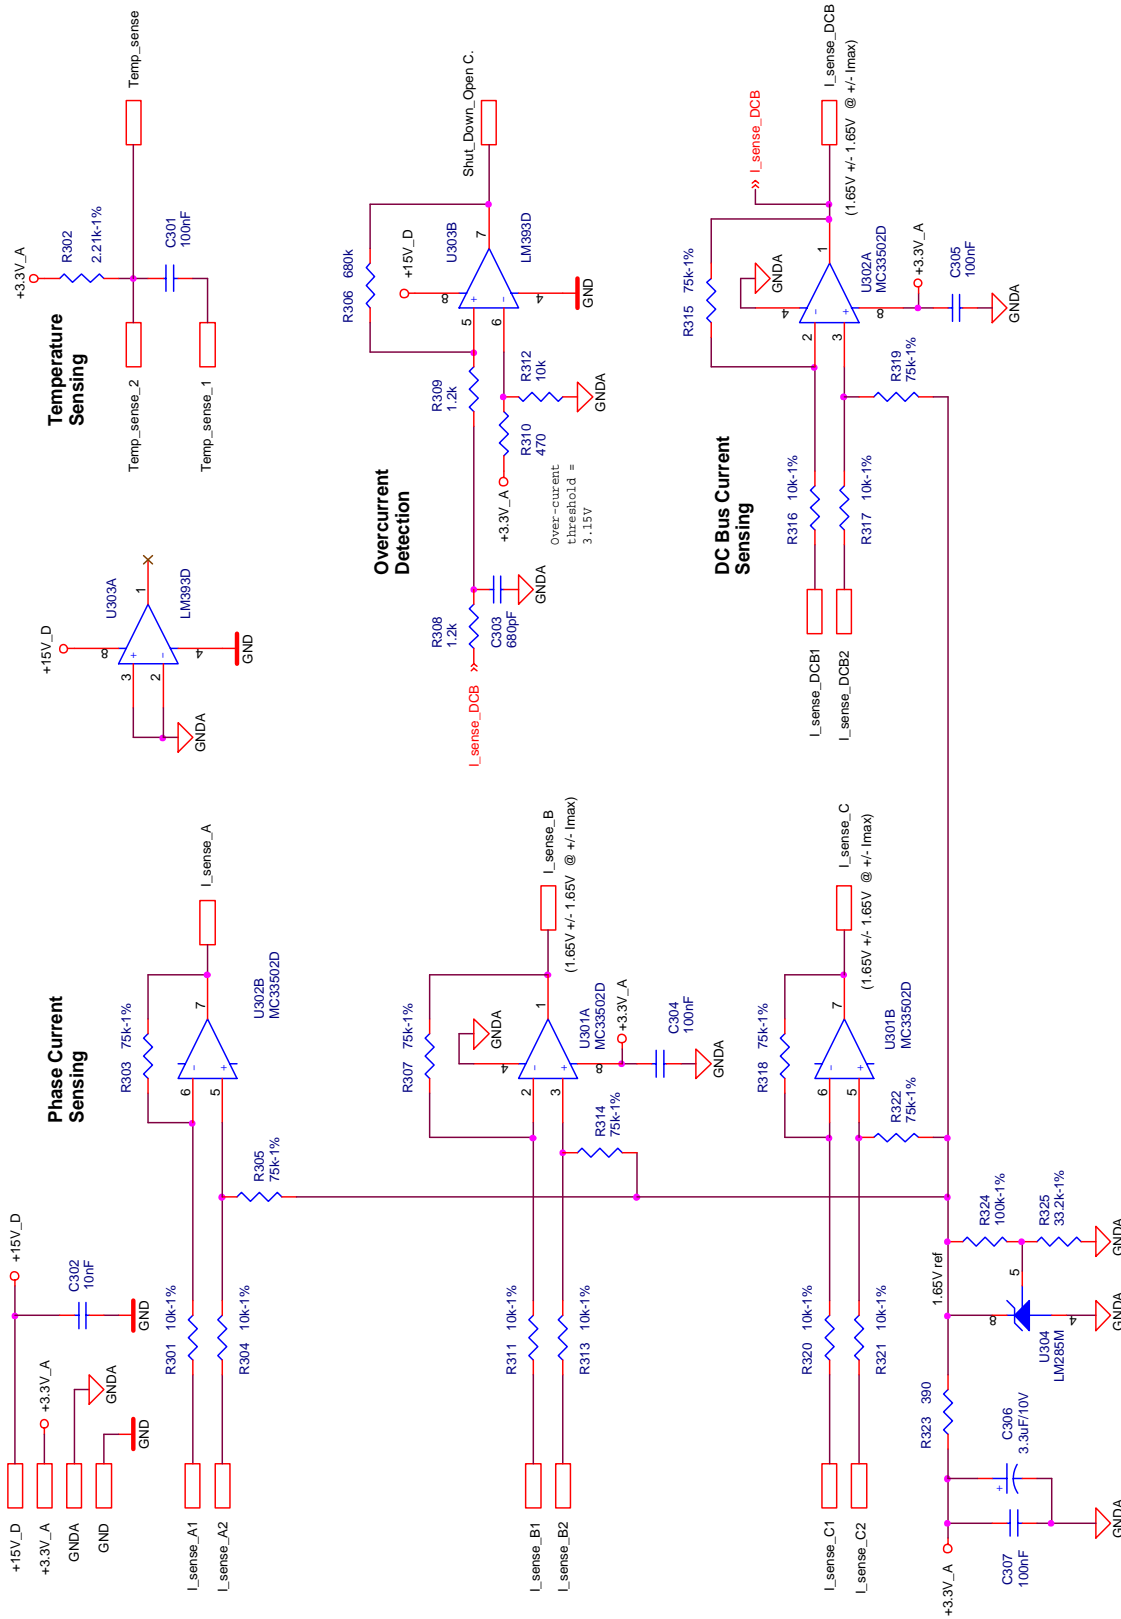

Figure 4-4. Current and Temperature Feedback
- Current and temperature feedback circuits are shown in Figure 4-4.